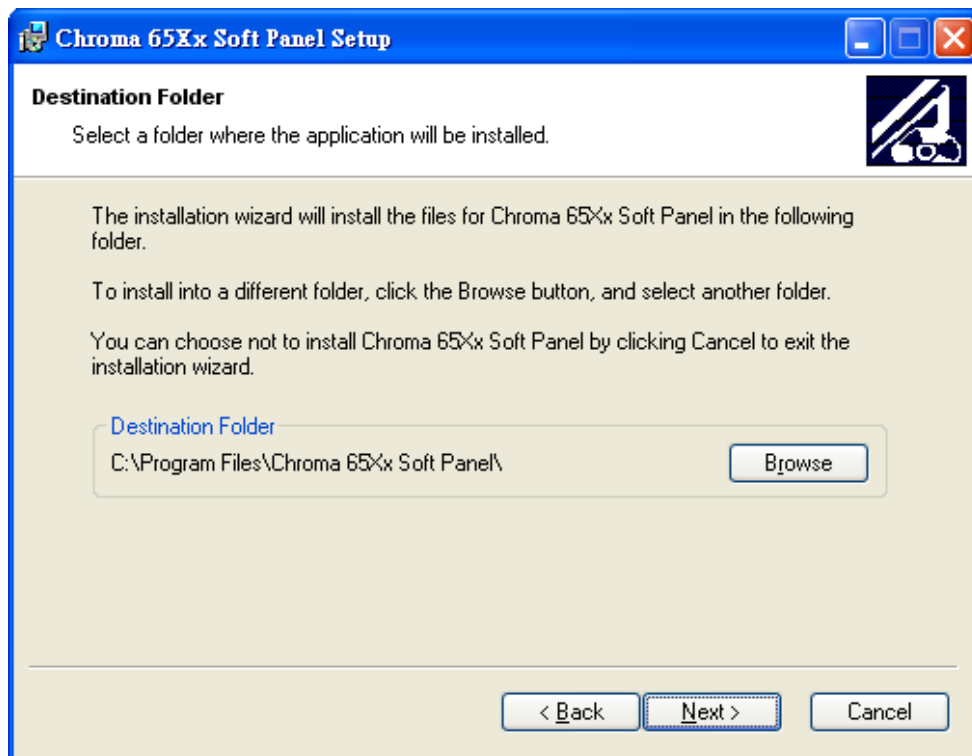

Figure 2-4 Installing Chroma 65xx Soft Panel
Click **Chroma 65XX System Software**, the installation screen prompts as Figure 2-4.
- As Figure 2-4 shows, the program is default installed in C:\Program Files directory. If the directory path needs to be changed click **Browse** and specify the path for installation.